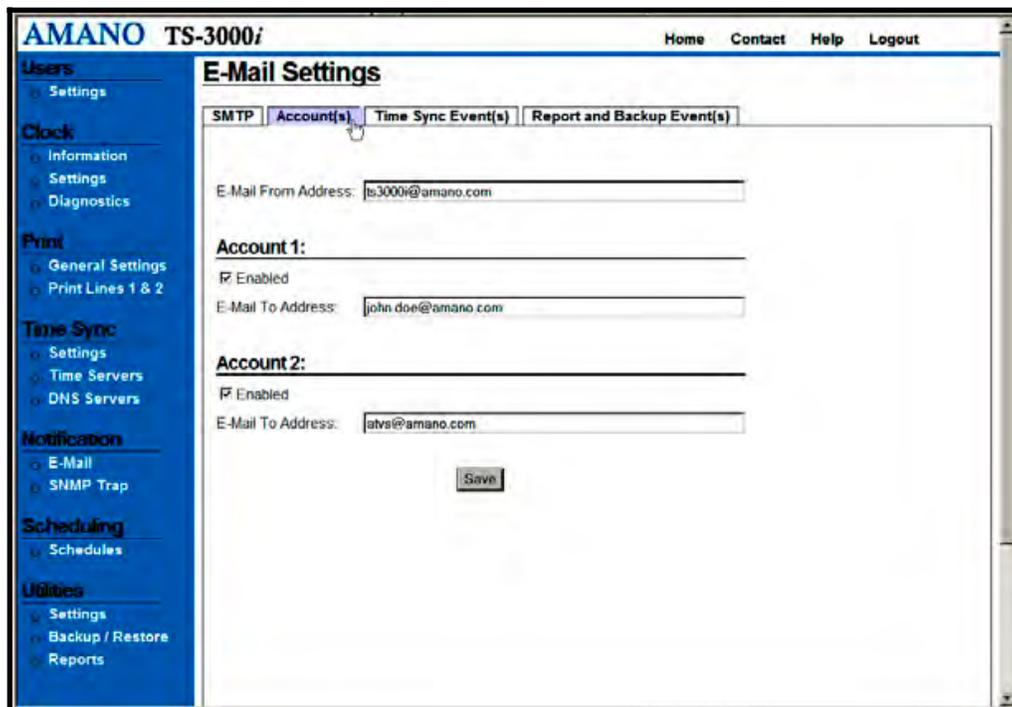

Figure 4-16: E-Mail Settings for Accounts
- Step 6.** Click on the **Account(s)** tab and the E-Mail screen to define e-mail destinations will appear (see *Figure 4-16*).